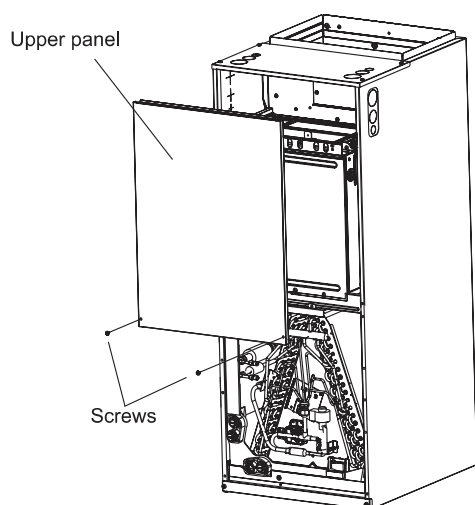

Fig. 2
- (2) Remove the upper panel. (Refer to Fig.2)